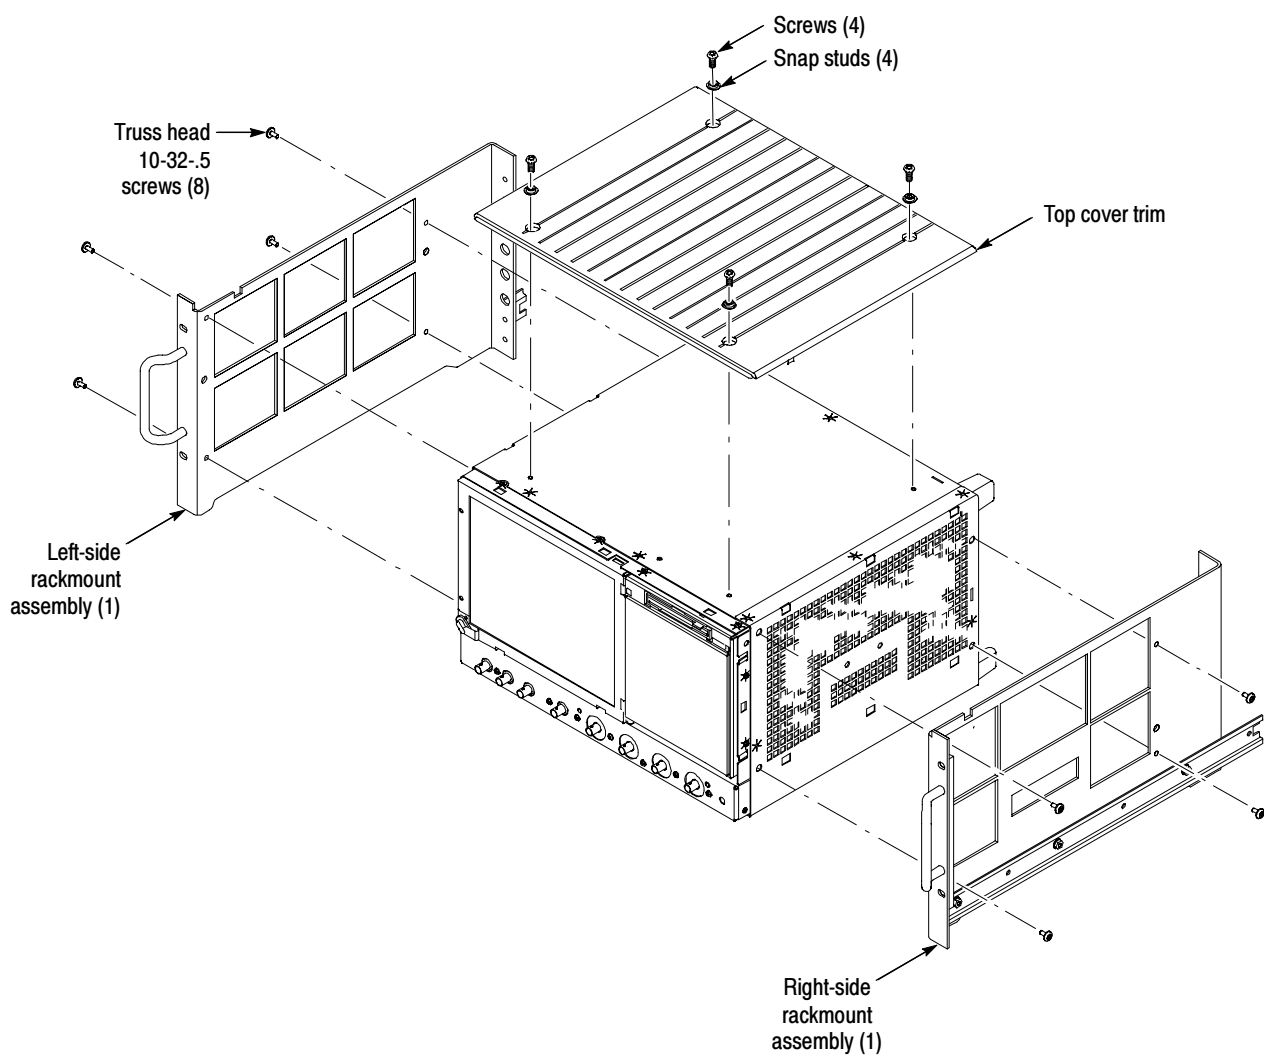

Figure 7: Installation of rackmount assemblies
4. Install the right-side rackmount panel assembly to the right side of the instrument. Secure it by using the four 10-32 Truss-head phillips screws, applying 28 inch-lbs of torque. Refer to Figure 7, on page 13.